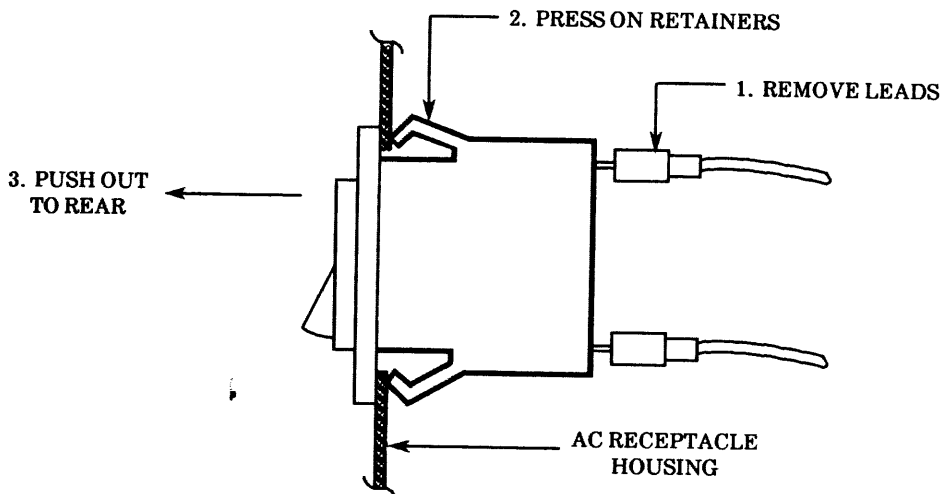

Figure 3-12. Power Switch Removal
3. As shown in Figure 3-12, the power switch is held in place by pop-out retainers on the top and bottom of the switch body. Press in the retainers and remove the switch through the rear of the housing. It is easiest to press in the top retainers first, tip top of the switch out, then press in the bottom retainers and remove the switch.